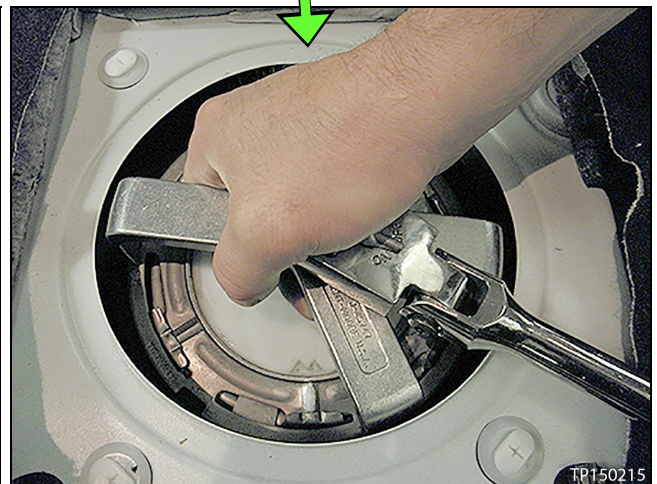

Figure 2
7. Remove the lock ring from the sub fuel level sensor assembly with Lock Ring Wrench # J-45747 (see Figure 2).